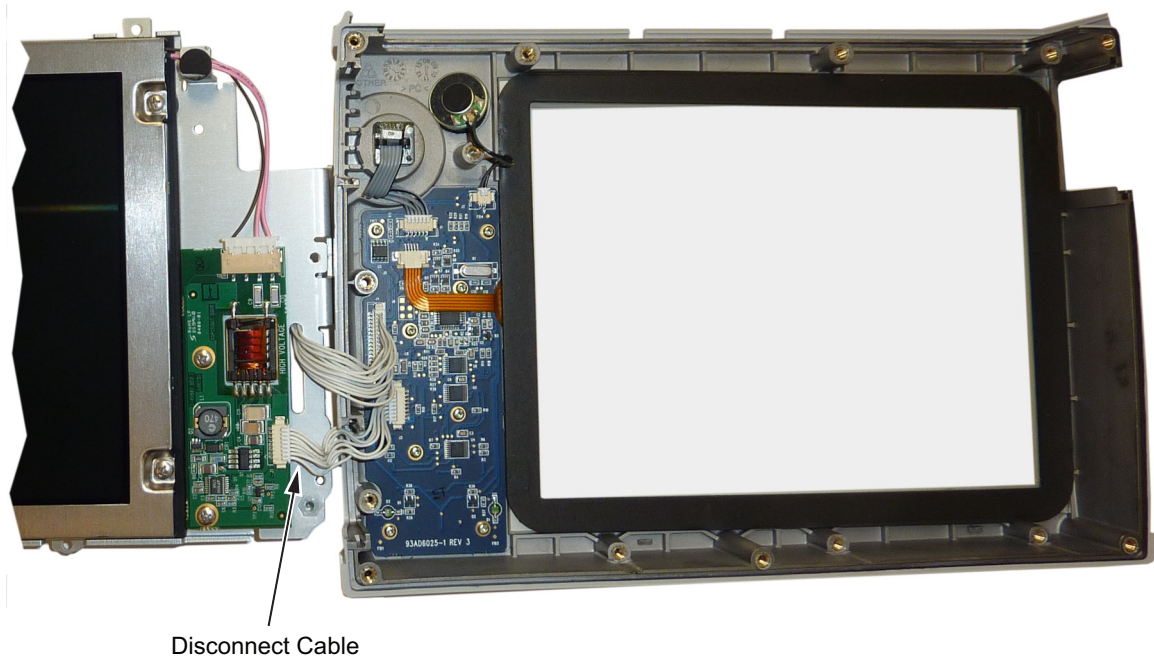

Figure 7-12. Replacing the LCD Assembly
4. Turn the LCD assembly over and disconnect the front half of the case from the LCD assembly (Figure 7-12).